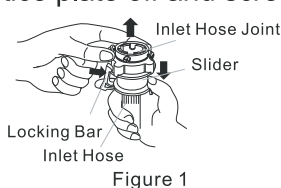

Figure 1
- Press the lower end of the locking bar to push slider down, and get down the inlet hose joint from the inlet pipe components, as shown in Figure 1. Loosen the four screws in the inlet hose joint properly, and then set the inlet hose into the tap, as shown in Figure 2. (If the caliber of the tap is oversize slightly and the inlet hose can not be connected, you can loosen the four screws and take down the lining. The front end of the tap must be even, otherwise it will cause water leakage, as shown in Figure 3.)